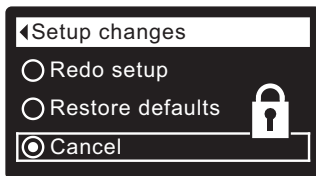

FIG. 40
8. Press the RIGHT (▶) button. A flashing padlock icon will appear, as shown in Figure 40.
- 1-7. Go to the **Setup changes** screen (Figure 40) by following Steps 1-7 at left.